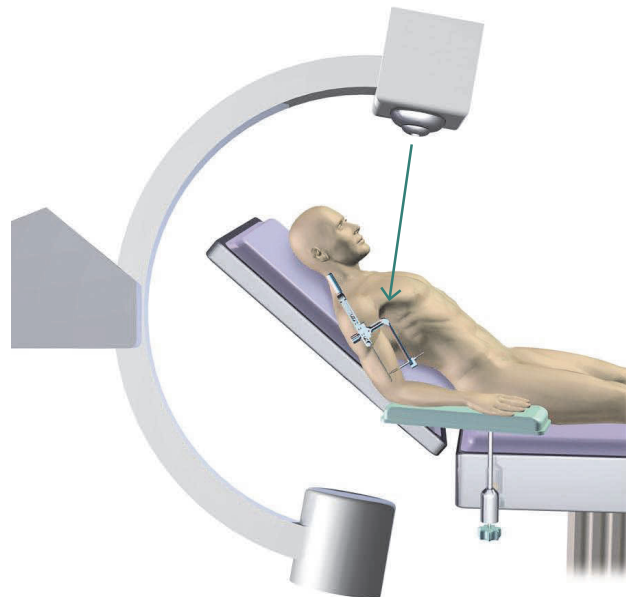

fig. 15
**NB:** Before drilling, check that alignment is correct and the aiming sleeve is centred on the nail using radiographic guidance (oblique view) (fig.15).